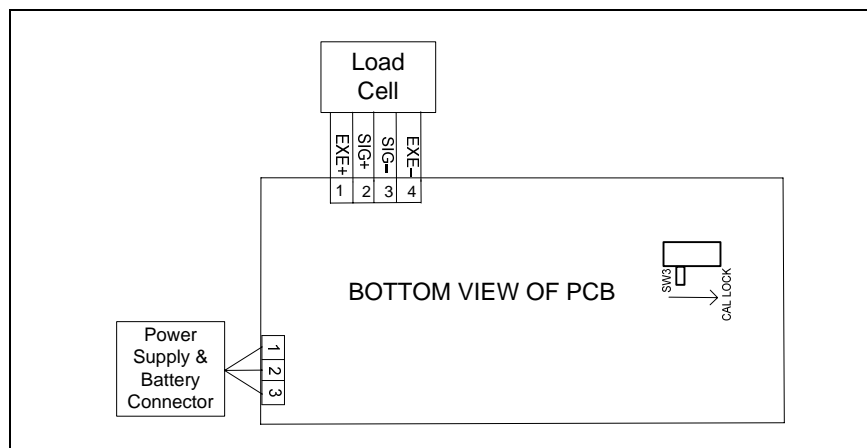

Figure 2-2. Catapult 1000 PCB connections
Calibration Locking: By use of an internal switch, the calibration function may be locked (disabled), and unauthorized recalibration prevented. (See Figure 2-2.)
NOTE: The following steps involve power applied to the scale. Load Cell solder contacts can be used as measuring points. See Figure 2-2.
3. Using a DVM, measure the excitation voltage (EXE+ and EXE– in Figure 2-2.) The reading should be 3 volts dc. This is the excitation voltage for the Load Cell and is regulated. If the voltage is lower, replace the PCB. (See Chapter 3.) Then perform Operational Tests. (See Chapter 4.)
4. Measure incoming power from the AC Adapter Connector. (See Figure 2-2.) It should read between 9 and 14 volts dc with power off and above 9 Volts dc with power on.